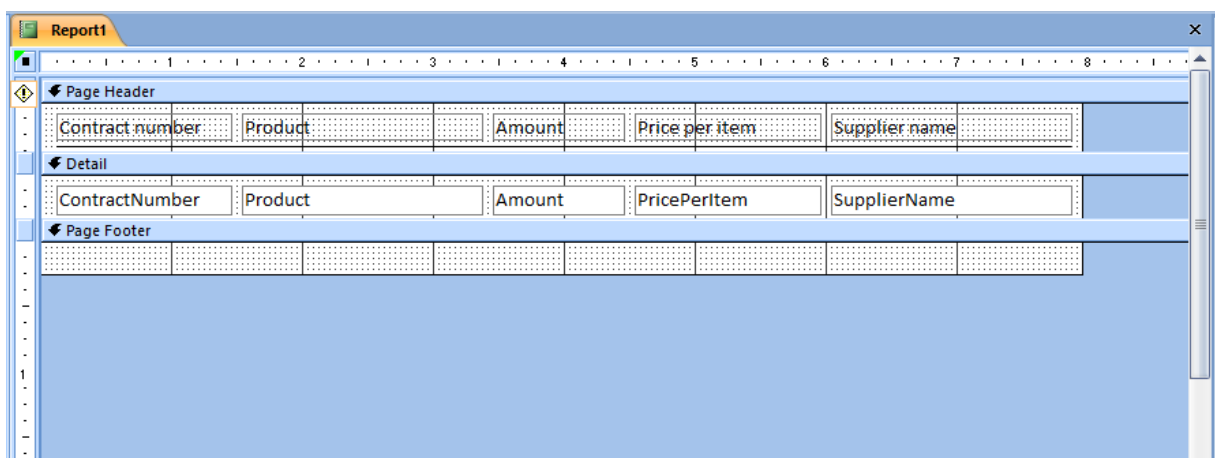

Figure 4.1
- 2) Report designer window will appear (figure 4.1);
- 4) Create report layout using “Label”, “Text Box”, and “Line” controls as it is shown in figure 4.1;